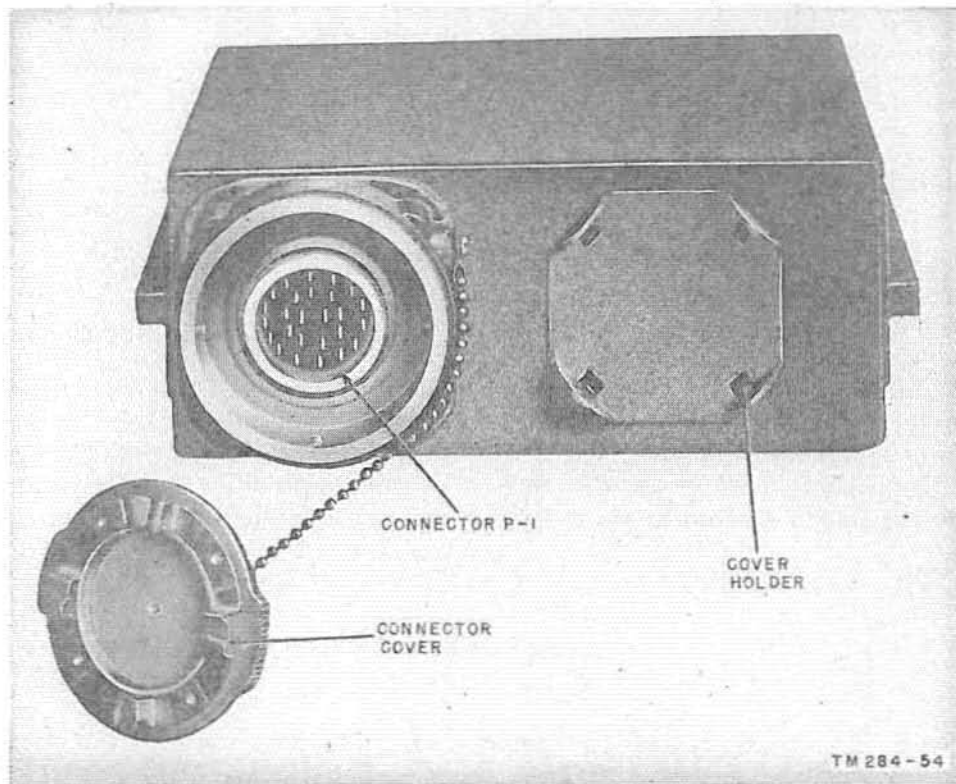

Figure 24. Control C-435/GRC, rear view.
a. Remove the cover which protects the plug on the rear of the control unit (fig. 24). Fasten the cover to the clamp at the right of the plug.